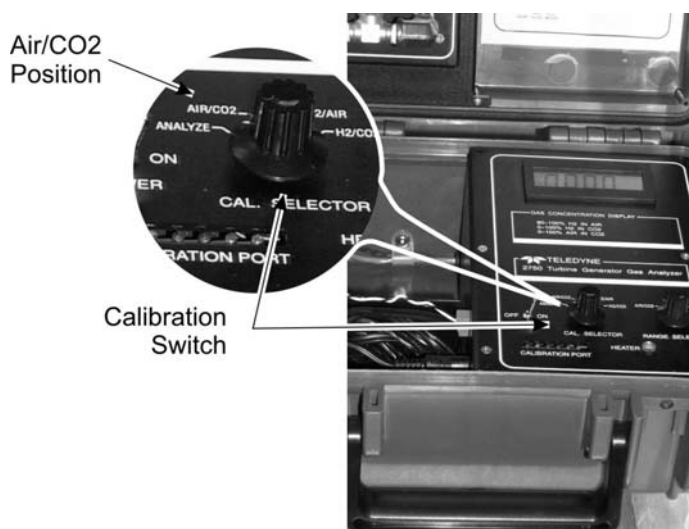

Figure 3-3: Interface Panel Showing Calibration Switch Position
6. With CO₂ flowing through the instrument, set the calibration switch (see Figure 3-3) to the air/CO₂ position for zeroing that range. Verify that the range selector switch is on the air/CO₂ position.